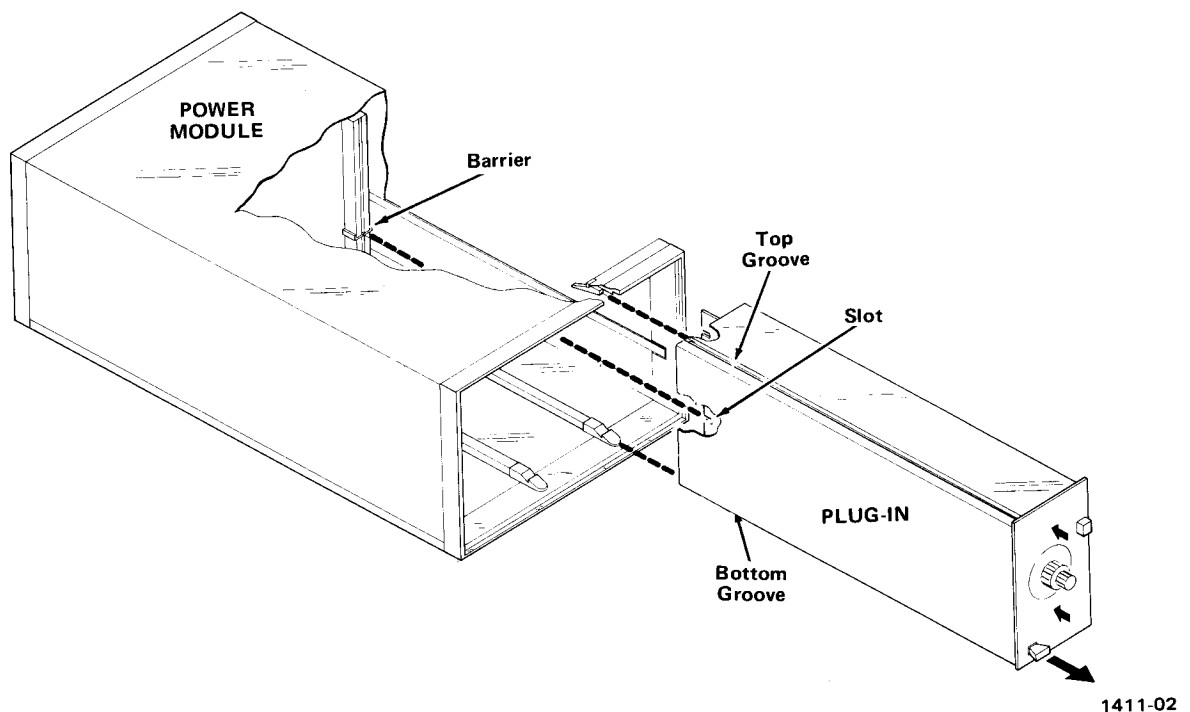

Fig. 1-2. Plug in Installation and Removal.
*Turn the power module off before inserting the plug-in; otherwise, damage may occur to the plug-in circuitry. Because of the high current drawn by the DC 503 it is also recommended that the power module be turned off before removing the DC 503. Refer to Fig. 1-2. Check to see that the plastic barriers on the interconnecting jack of the selected power module compartment match the cut-outs in the DC 503 circuit board edge connector.*